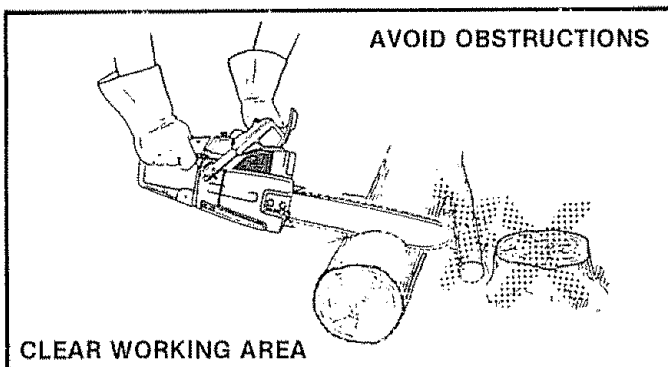

Figure 16
- Keep the working area free from obstructions such as other trees, branches, rocks, fences, stumps, etc.** Figure 16. Eliminate or avoid any obstruction that your saw chain could hit while you are cutting through a particular log or branch.